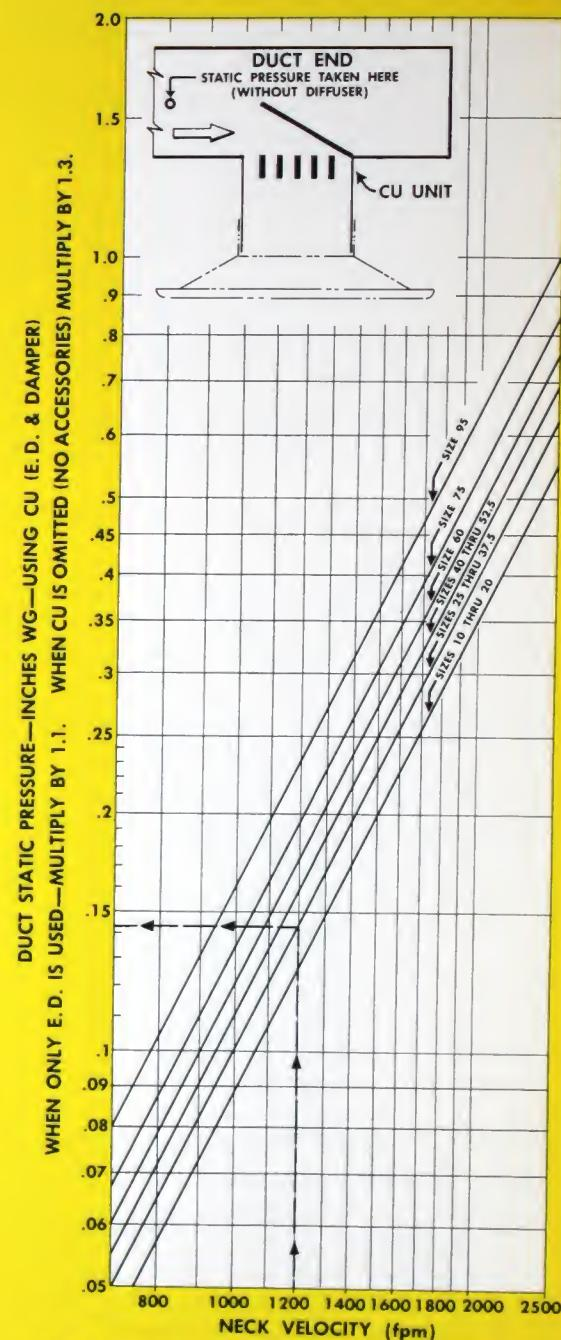

Fig. 1—End of duct run—where duct area is approximately equal to take-off area.
- Determine from an analysis of the actual duct design which figures 1, 2 or 3 apply.
Assuming our example comes under figure 1, proceed as follows:
(a) Total required s.p. = Diffuser s.p. (Performance Data Type AR-3) + Duct s.p. (From Graph in Fig. 1).
(c) On chart (Fig. 1—Duct End Condition) enter graph at 1200 fpm Neck Velocity and follow line up until it intersects curve for sizes 25 through 37.5. Proceed horizontally at this intersection and read .143 in. wg. Duct s.p.